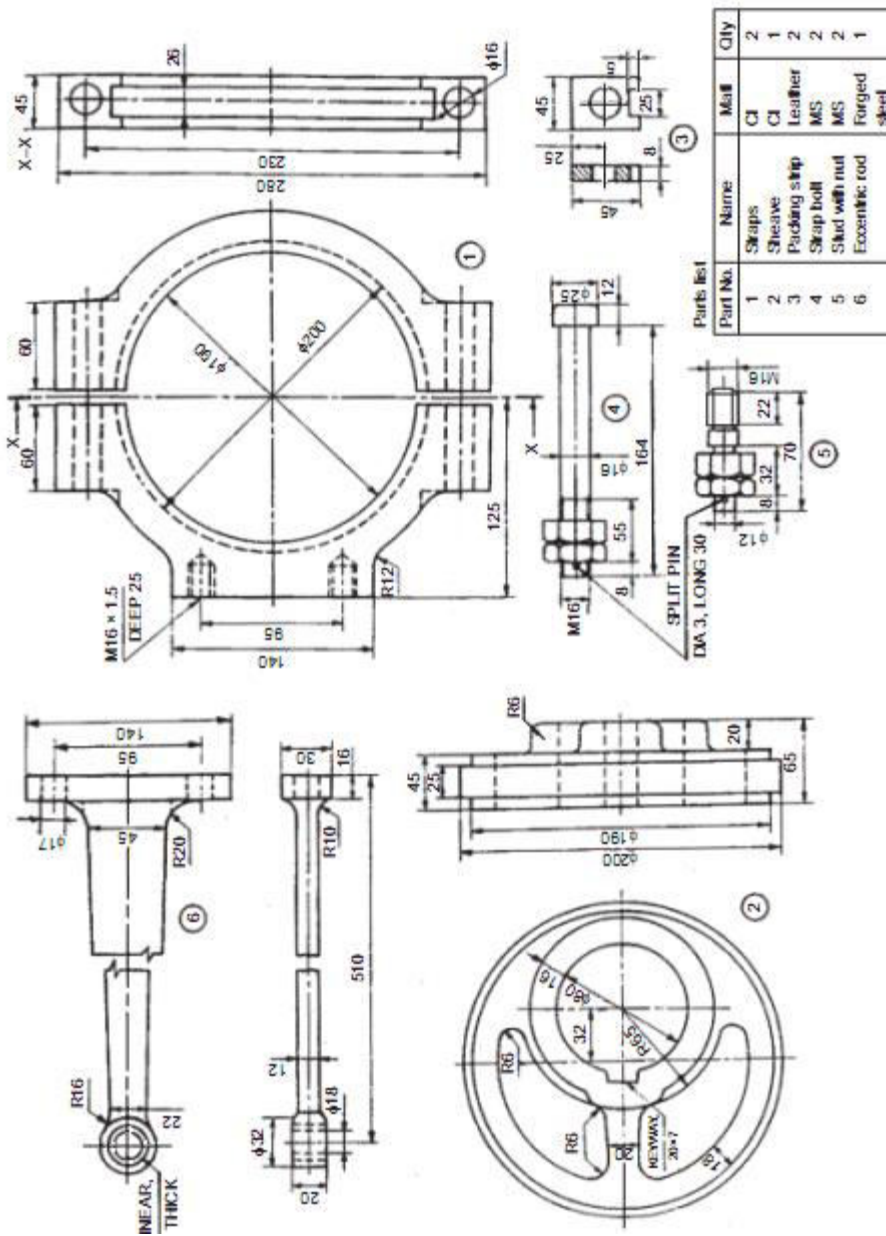

Fig 1
9. Assemble different parts of eccentric (Fig 1) and draw the following views for the assembled unit